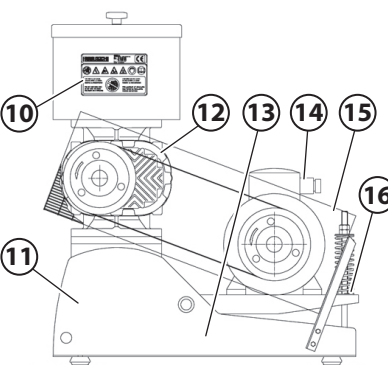

Fig.3
3.3 ROBOX EL (Fig.3)
3.3 ROBOX EL (Abb.3)